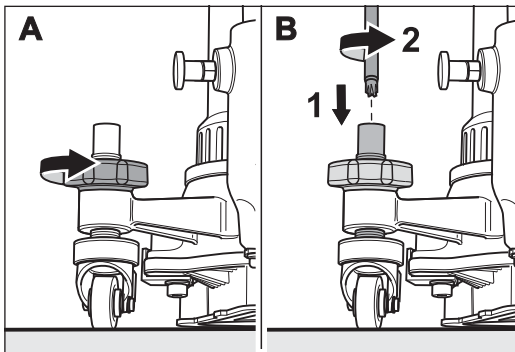

Fig. 56 Undo the locknut on the guide roller.
- 2 Loosen the locknut of the guide roller to be adjusted (fig. 56, **A**).
If the locknut is screwed on too tightly, you can turn the vertical guide roller axis counterclockwise with the universal spanner to loosen the locknut (fig. 56, **B**).
- 2 Loosen the locknut of the guide roller to be adjusted (fig. 56, A).
If the locknut is screwed on too tightly, you can turn the vertical guide roller axis counterclockwise with the universal spanner to loosen the locknut (fig. 56, B).
- 2 Remove the locknut of the guide roller (fig. 56).